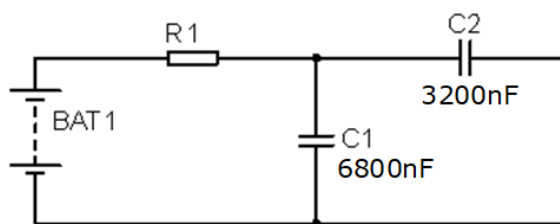

Figure 9 – Circuit 6
- c) Find the value of resistor R1 in the circuit shown in Figure 9, to obtain a time constant of 0.2s. Show all your working.